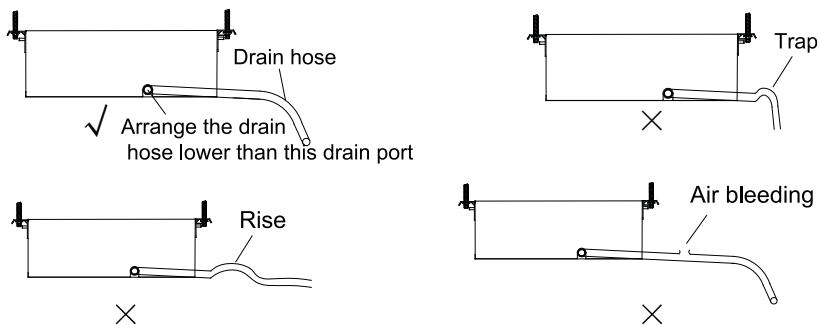

Fig.23
- (1). Install the drain hose with downward gradient ($1/50$ to $1/100$) and no risers or traps are used for the hose.(Fig.23)
- (2). Be sure there is no crack or leak on the drain hose to avoid the formation of air pocket. (Fig.23)